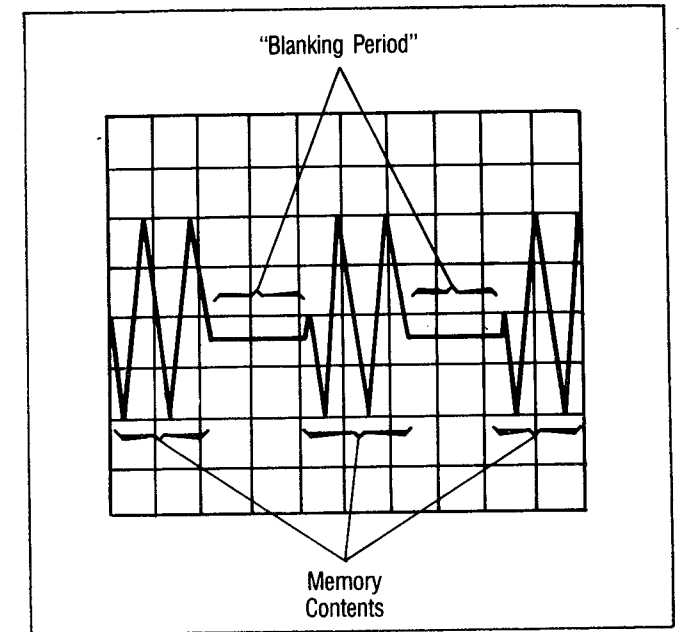

Fig. 4. Incorrect Display When Sweep Speed Is Set Too Low.
This number should always be faster than the sweep speed setting of the Adapter. While with some oscilloscopes it may be possible to select a slower sweep speed for the delayed (B) sweep than the main (A) sweep, this type of display would have no advantage. In fact, because the Adapter does not feed the waveform to the oscilloscope except immediately following a sync pulse, the display would show a "blanking period" between each "memory content" as shown in Fig. 4 (the memory content is what you would see on one complete display with the oscilloscope set for 0.1 ms/div). There are no practical applications for this type of signal.